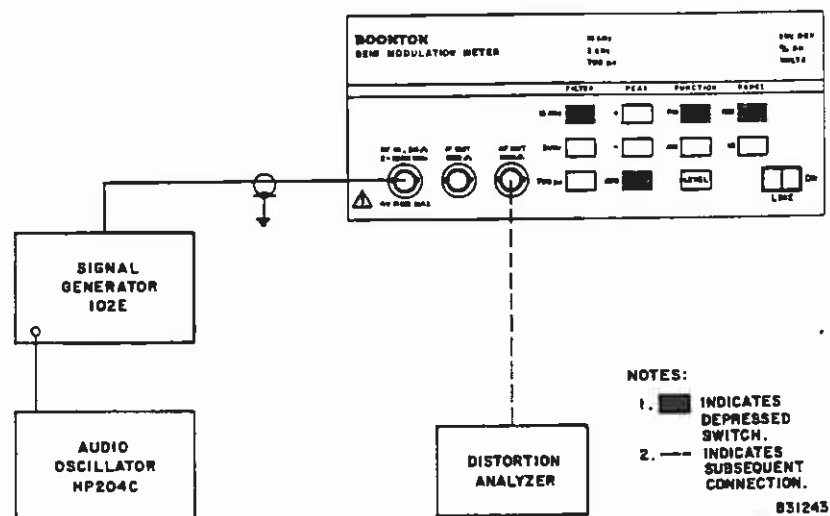

Figure 2-9. Test Setup: F.M. Audio Distortion and F.M. Rejection
1. Connect the 8210 and test equipment as shown in Figure 2-9.
1. Connect the equipment as shown in Figure 2-9.
1. Connect the equipment as in Figure 2-9.